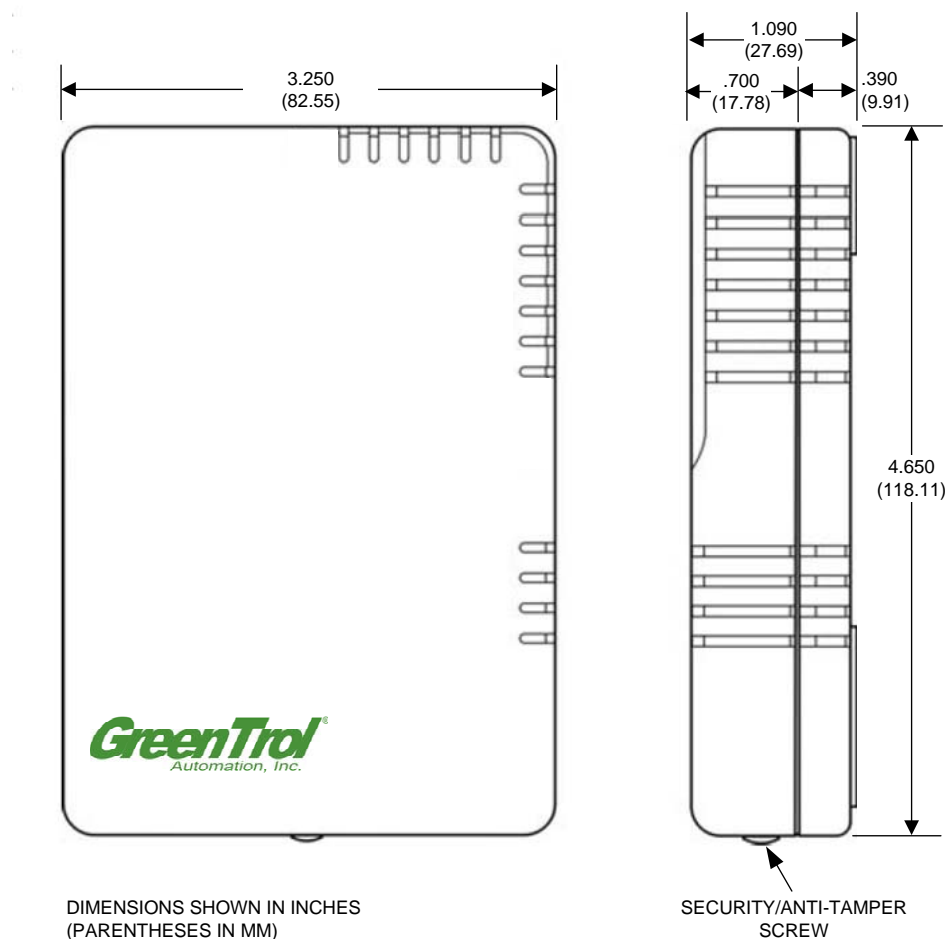
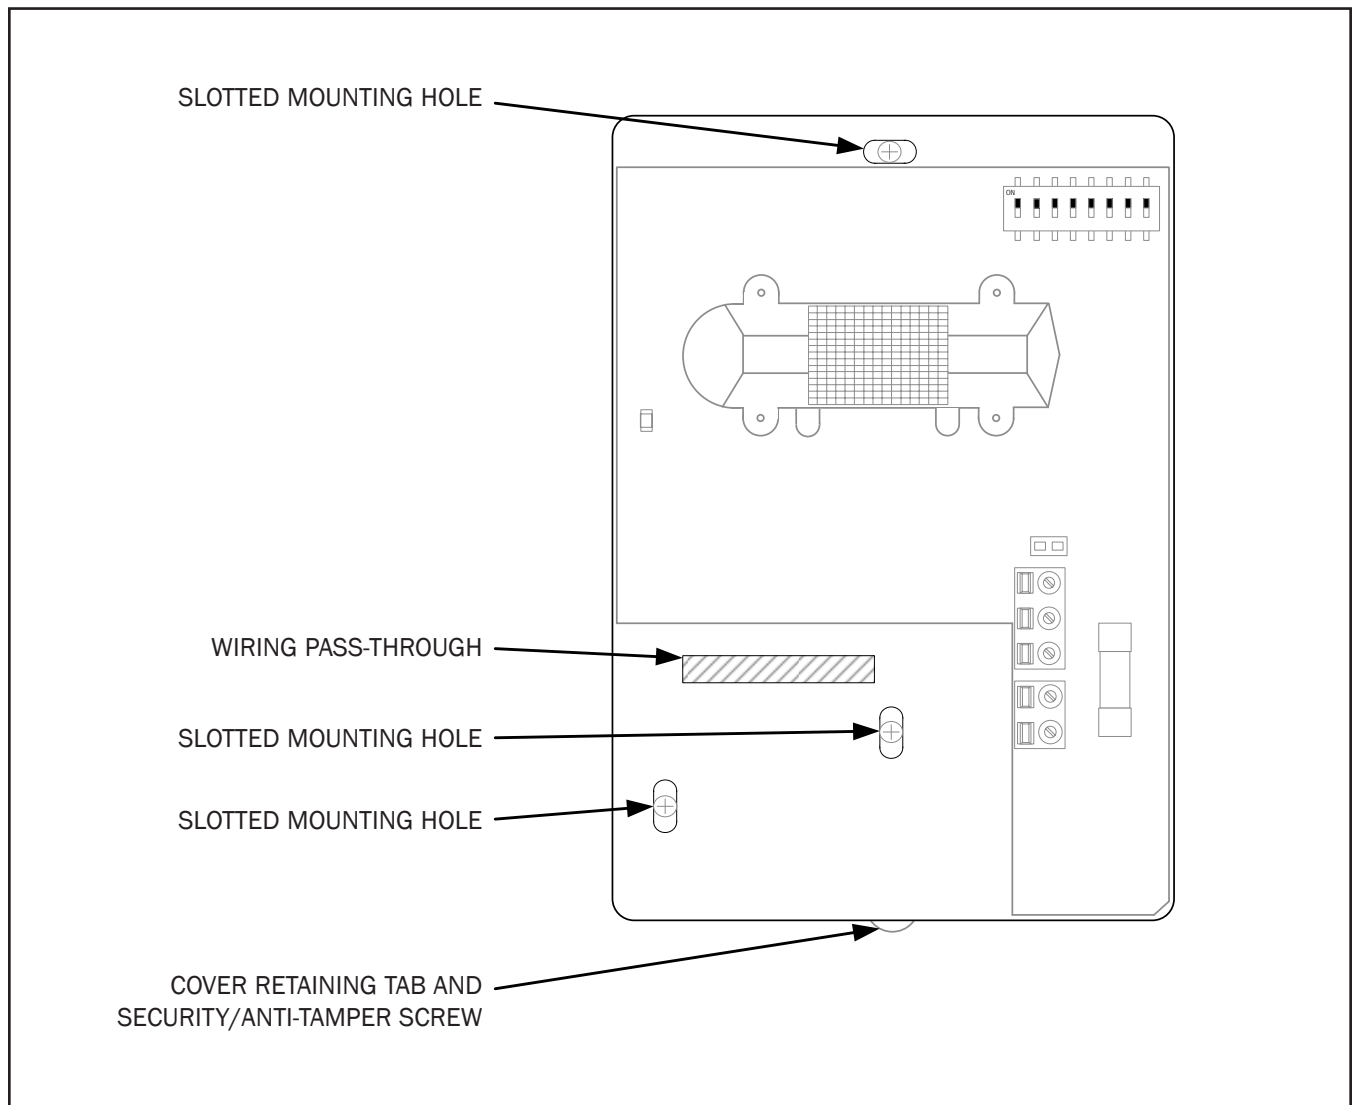

Figure 2. GS-300 Outline Dimensions
Figure 3. Marking Locations for Installation
| Figure 2. GS-300 Outline Dimensions | 5 |
Figure 2 details the mechanical outline dimensions of the GS-300. The location selected for the GS-300 is important to ensure accurate readings that are representative of the area to be monitored. Preferred mounting locations are:
Read and understand all installation instructions prior to installing the GS-300. The GS-300 is designed for surface mount installation, or for installation onto a standard (field supplied) single gang electrical junction box. Installation and wiring of the GS-300 must be accomplished in accordance with all local electrical and mechanical codes to ensure safety and compliance. Refer to Figure 2 for GS-300 outline dimensions, and Figure 3 for mounting hole locations.
5. Using the GS-300 base as a template, mark the location for the wiring pass-through slot and for the mounting screws as shown in Figure 3. For mounting directly to a single-gang electrical junction box, proceed to step 8.